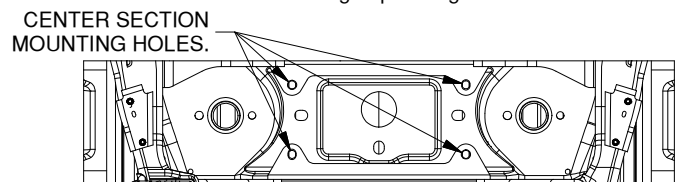

FIGURE B4: Looking up at frame crossmember under truck
2. **Install fastener handles:** Place the fastener handles, see Figure B2, between the frame cross member and the bed, see Figure B3. Use the handle to guide the welded nuts into place. Make sure that the two nuts are directly over the holes in the frame, see Figure B4.